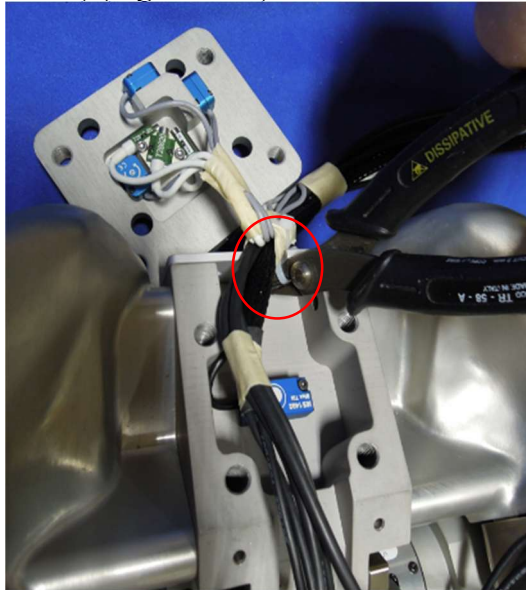

Figure 8-13. Remove the strain relieving cable tie from the Rear Pelvic Instrumentation Cover
- 8.2.9 Remove the strain relieving cable tie from the Rear Pelvic Instrumentation Cover (474-4001) (Figure 8-13).